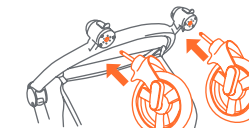

Fig. 1c
- Lean the stroller backwards and push each front wheel assembly into the front wheel housing until they lock into place (Fig. 1c). **NOTE:** Pull on the wheel assembly to ensure that it is securely attached to the stroller.